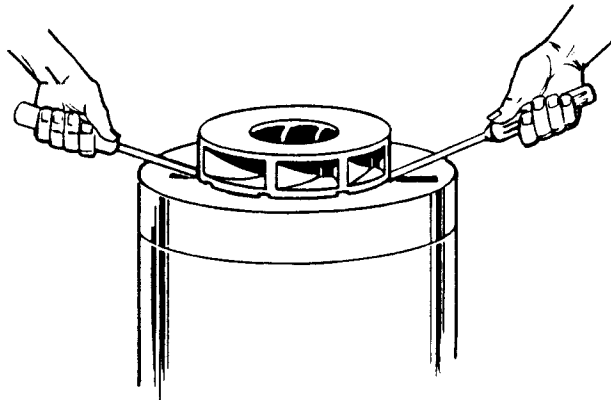

Figure 3. Removing Impeller
Wedge a piece of wood between the vanes of impeller (2) and intermediate stud to prevent shaft rotation. Unscrew locknut (30) and remove flat washer (29). Pry off the impeller using two screwdrivers as shown in Figure 3 and remove the key (18).